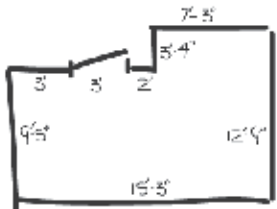

Figure 1
1. Draw a floor plan of your room. (Figure 1)